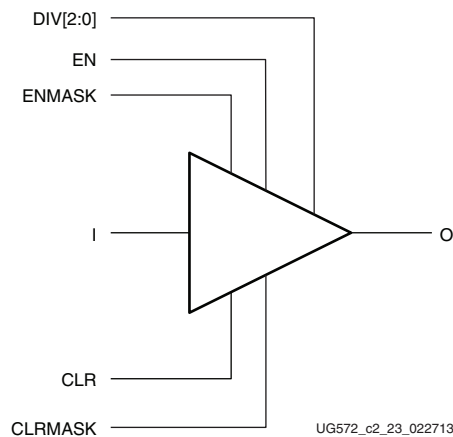

Figure 2-21: BUFG_GT Primitive
BUFG_GT (Figure 2-21) is a clock buffer with one clock input (I), one clock output (O), one clear input (CLR) with CLR mask input (CLRMASK), a clock enable (CE) input with a CE mask input (CEMASK) and a 3-bit divide (DIV[2:0]) input. This buffer can directly drive the routing and distribution resources and is a clock buffer with a single gated input and a reset. When CE is deasserted (Low) the output stops at its current state, High or Low. When CE is High, the I input is transferred to the O output. CE is automatically synchronized to the clock for glitch-free operation. CLR is an asynchronous reset assertion and synchronous reset